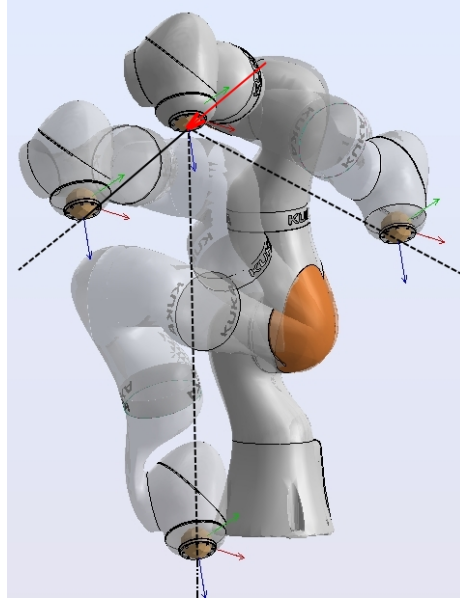

Fig. 12.1: Precise hand-guiding first motion group
1. First motion group, Fig. 12.1: in this case the operator can move the EEF on a line along the axes of the robot base frame, once at a time. In such a case, the orientation of the EEF is kept unchanged while performing the motion.
The first motion group is demonstrated in Fig. 12.1. To explain this motion group, consider the case where the operator is applying a force on the EEF of the robot, the force applied is approximately aligned with the positive X-axis of